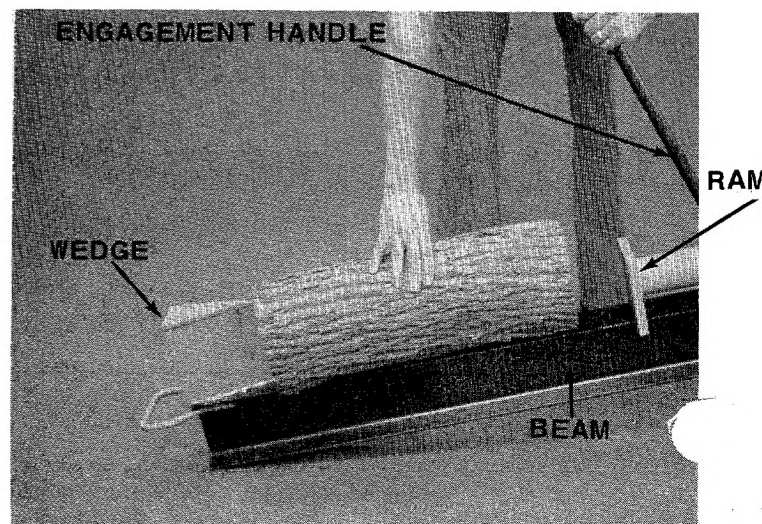

FIGURE 9
- D. Place log on beam and hold in place with right hand. See figure 9.